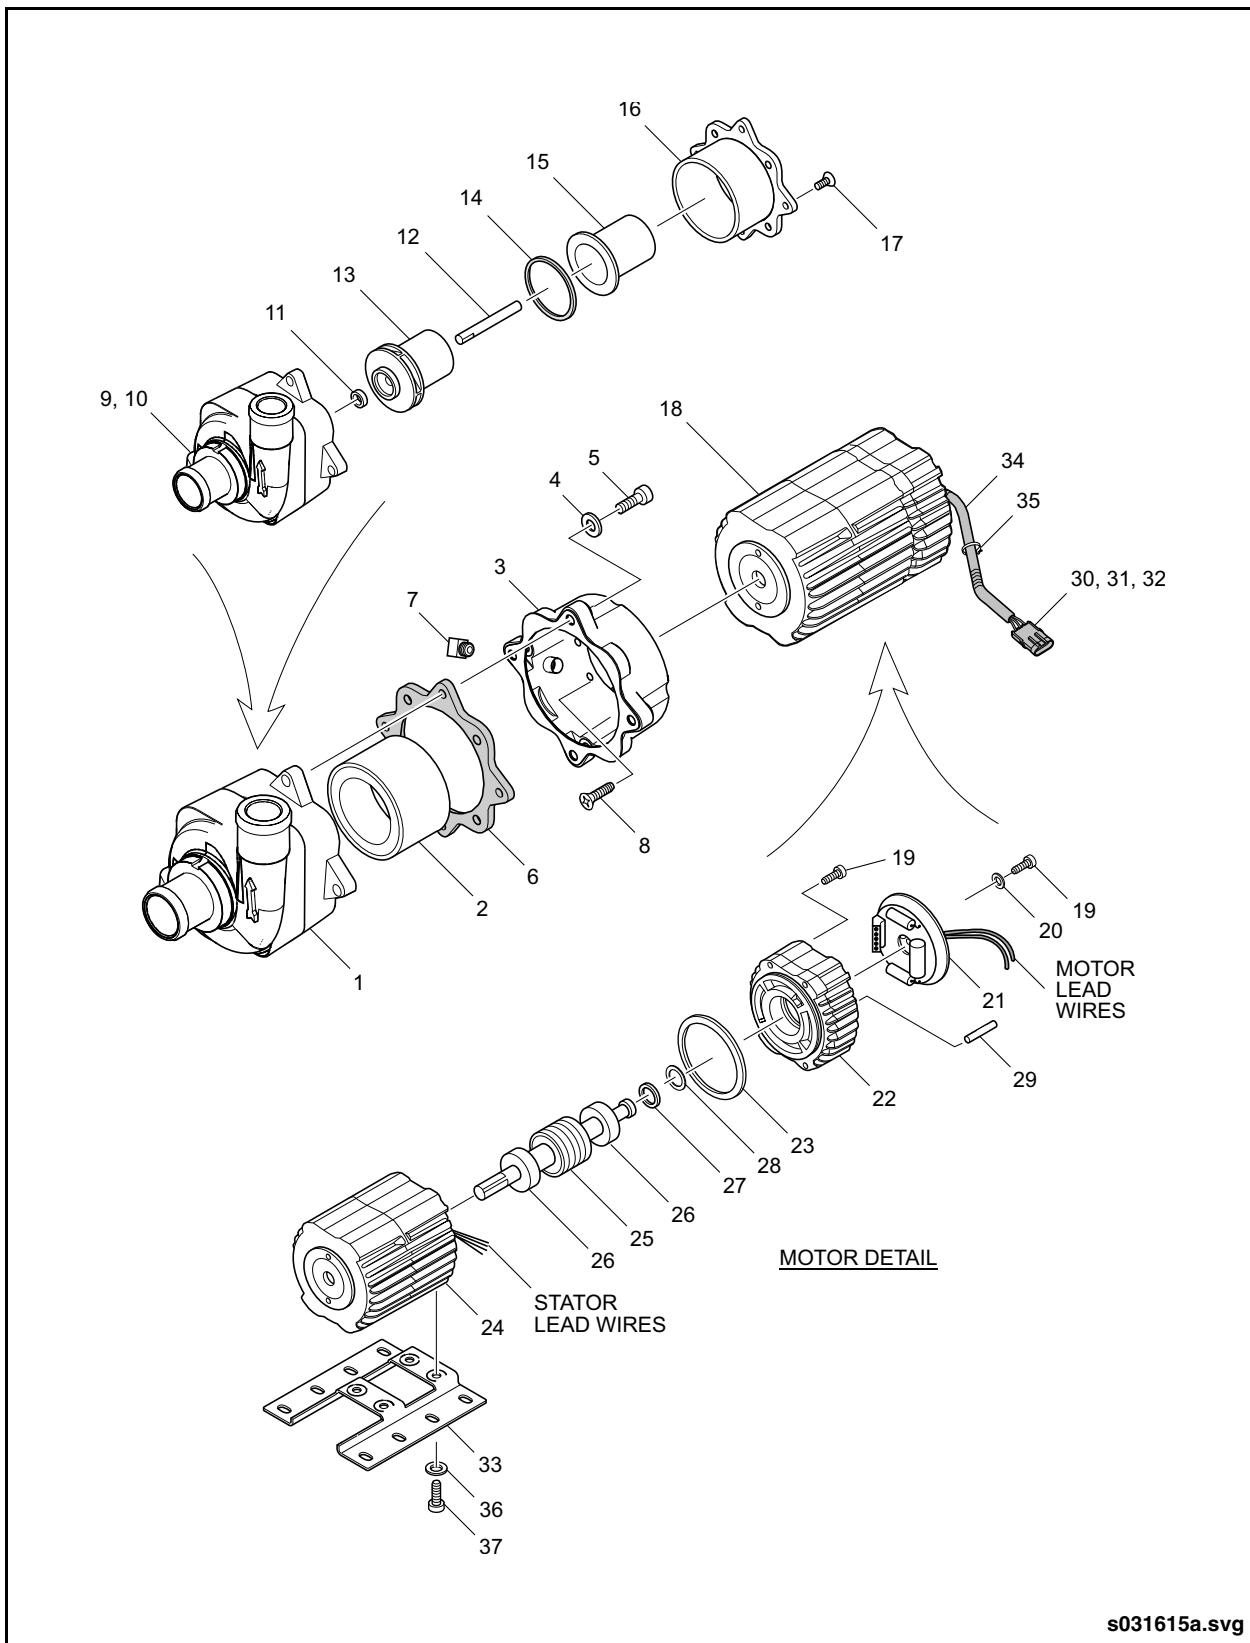

Fig. 10-15: Booster Pump Assembly
1. Mark the position of the pump housing with respect to the connector ring housing and connecting housing. See "Fig. 10-15: Booster Pump Assembly" on page 48.